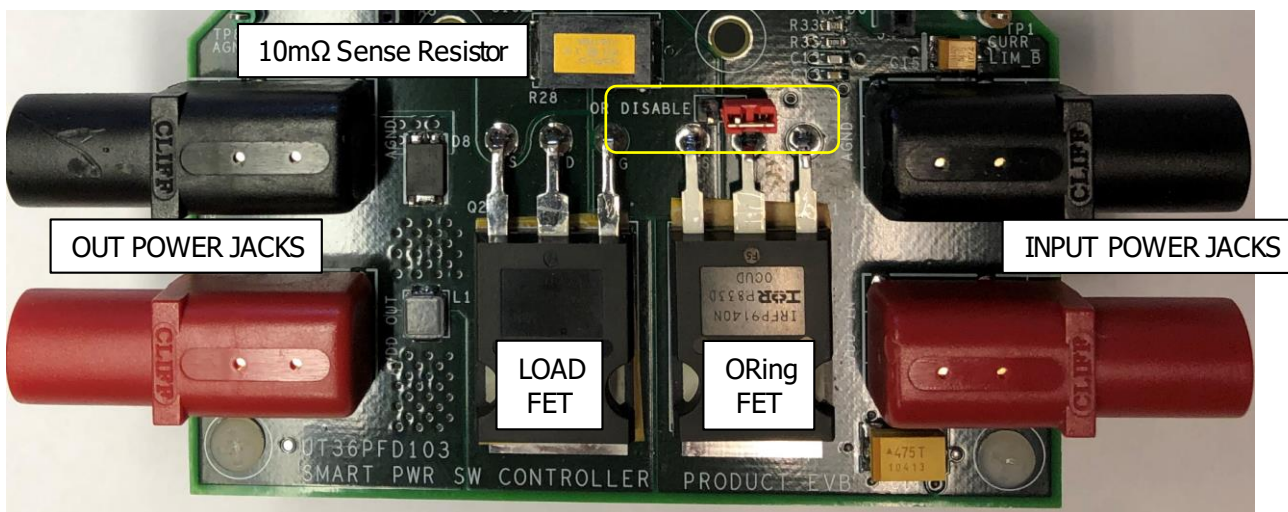

Figure 5: ORing Bypass Option
Step 1) Determine if you will bypass the ORing FET. As shown in Figure 5, the red shunt is NOT connecting across the OR DISABLE header. This configuration allows the SPSC to control the ORing FET. When shunting across this header, the ORing FET source-drain terminals are shorted effectively bypassing the SPSC control of the PowerFET.